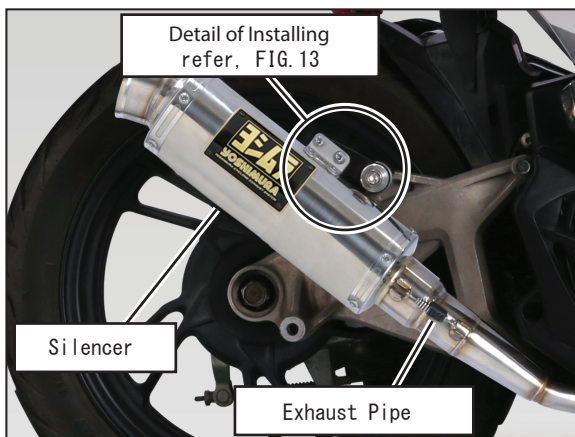

FIG. 12
11) Mount Silencer Bracket on Stock Silencer Bracket by Using Cap Bolt M10 x 80, 2-Stepped Spacer 10-26-9, Grommet Rubber and Spacer 10-26-31 Tighten bolt by hand only at this stage (See Fig. 12, 13).